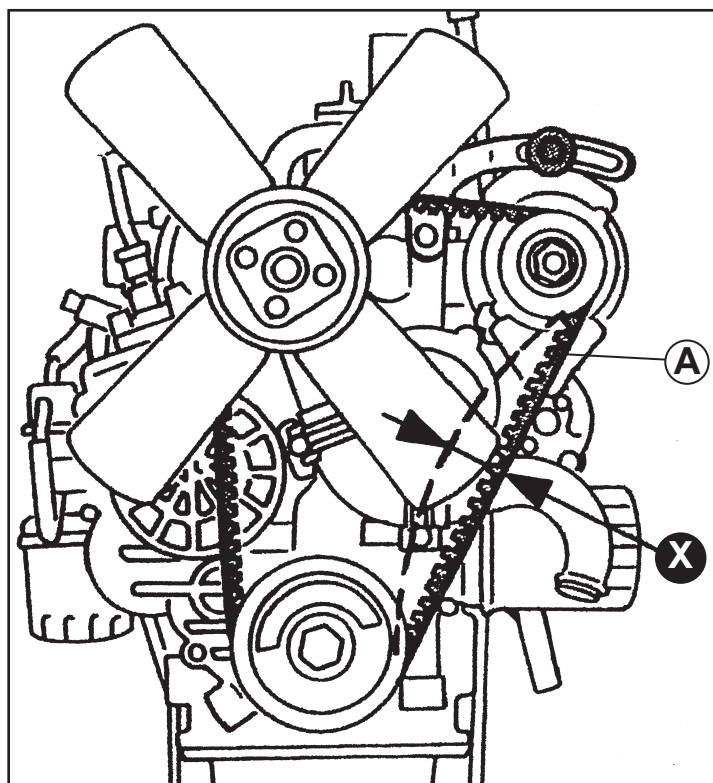

Fig. 1
- Press on the belt (A) with the thumb with moderate strength.
- If the measure (X) on the Fig. 1 is higher than 10 mm, it is necessary to tightened the belt.
- Si la mesure **(X)** de la **Fig. 1** dépasse 10 mm retenir la courroie.